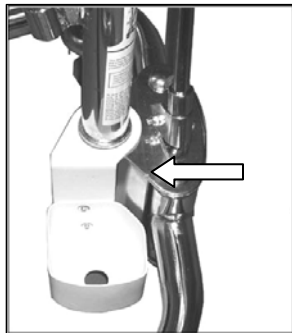

Figure 2: Stretcher Cup Installed
STEP 3: (Figure 2) Attach the Stretcher Cup (15) to the Invacare Lifter Base (1), snapping it into place and twisting the lower tab back under the Mast (12), past the lower bolt.